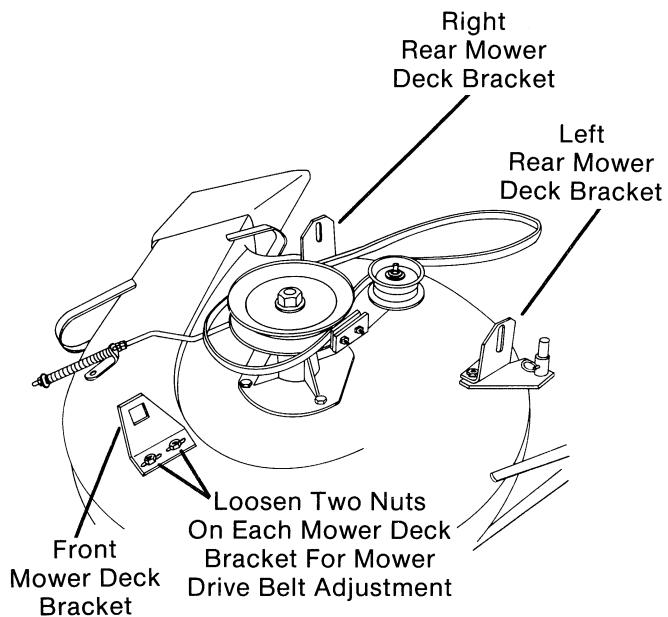

FIG. 19
- Loosen two nuts on each of the three mower deck brackets. (Fig. 19)